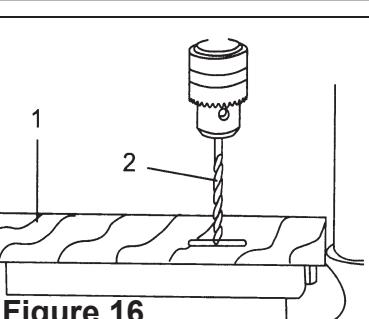

Figure 16
Workpiece method (Figure 16 and 17)
- A. Mark the depth (2) of the hole on the side of the workpiece.(1) (Figure 16).
- B. With the switch "OFF", bring the drill bit (2) down until the tip is even with the mark (Figure 16).